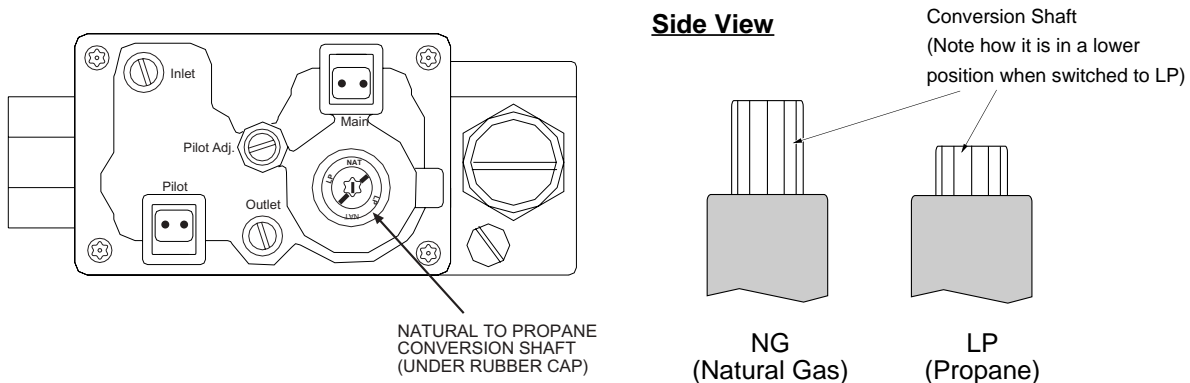

Figure 27
- 11 The gas control valve has a propane conversion shaft that alters the outlet pressure. Remove the rubber cap over the propane conversion shaft and twist the small knob so the line points to "LP" (see Figure 27).